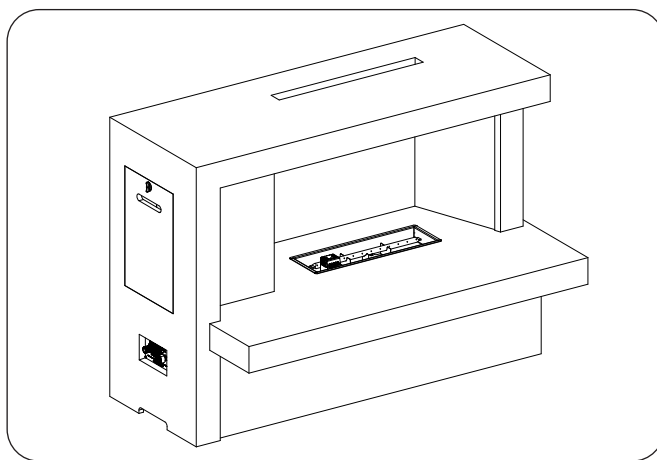

Fig. 26-3 Replace storage door (if equipped)
3. Replace the storage door that was previously removed during the assembly section (if equipped). Ensure the door is secure in place (see Fig. 26-3).